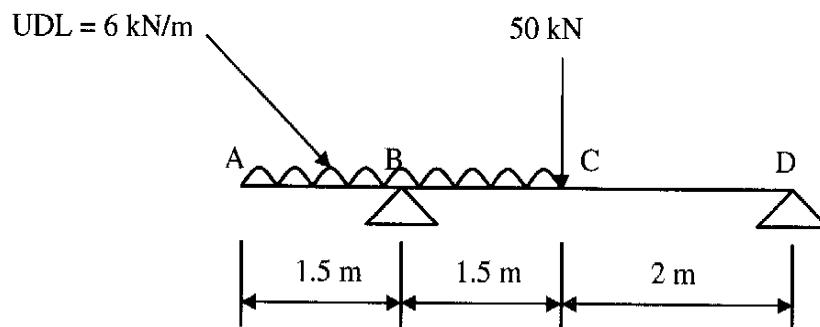

Fig Q2
2. A solid rectangular section beam is loaded as shown in Fig Q2. It is simply supported at points B and D and carries a uniformly distributed load of 6 kN/m over a 3 m length from A to C. The breadth of the beam is 80 mm and the maximum stress due to bending is not to exceed 140 MN/m².
- (a) Sketch the shear force diagram, indicating the values of shear force at points A, B, C and D. (4)
- (b) Sketch the bending moment diagram, stating the maximum bending moment and where it occurs. (6)
- (c) Calculate the minimum allowable depth of the beam. (6)